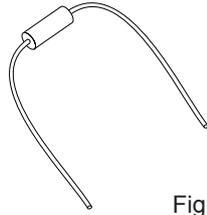

Fig. 22
1. The addition of this resistor (Fig. 22) allows the boiler to achieve higher flow temperatures for a given outside temperature when compared with the standard outdoor sensor.